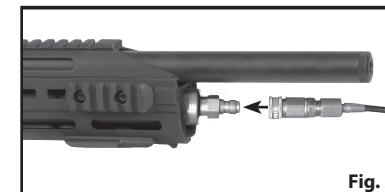

Fig. 3
7. Connect the quick-disconnect fitting on the hand pump hose to the fill nipple (Fig. 3).
7. Connect the quick-disconnect fitting on the adaptor's hose to the fill nipple (Fig. 3).